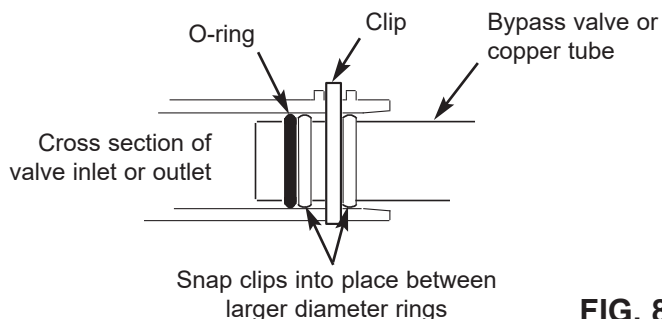

FIG. 8
- Snap the two large plastic clips in place on the inlet and outlet ports, from the top, down (See Figure 8). Be sure they snap into place. Pull on the bypass valve or copper tubes, to make sure they are held securely in place.